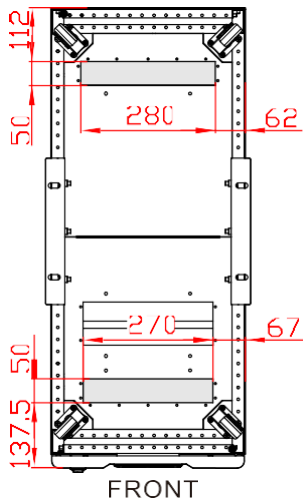
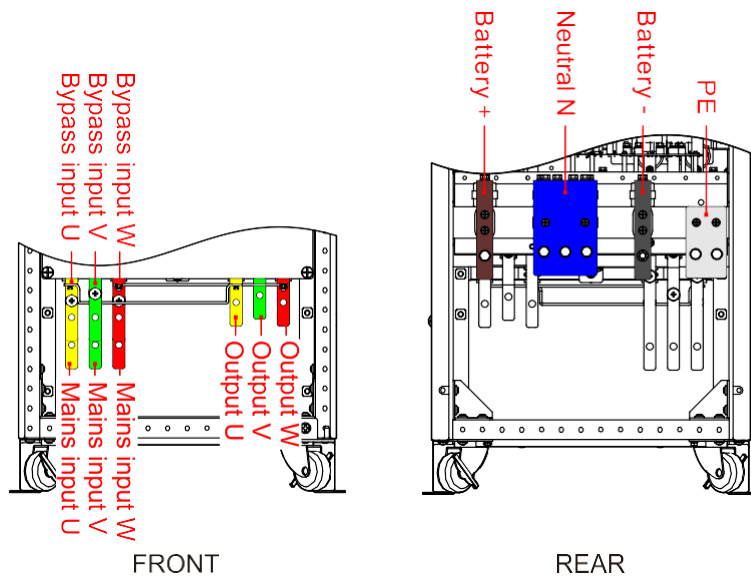

Figure3-29 Down wiring holes diagram of 120K
Figure3-30 Wiring terminal diagram of 120K
Step 2 Lead the input cables, output cables, battery cables and PE go through the bottom wiring hole (the diagrams of down wiring hole are as shown in Figure3-29), and connect the cables with terminal bars according to Figure3-30 respectively, then fasten the bolts.